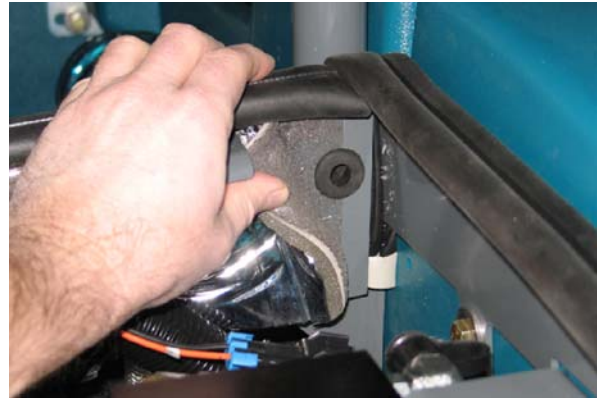
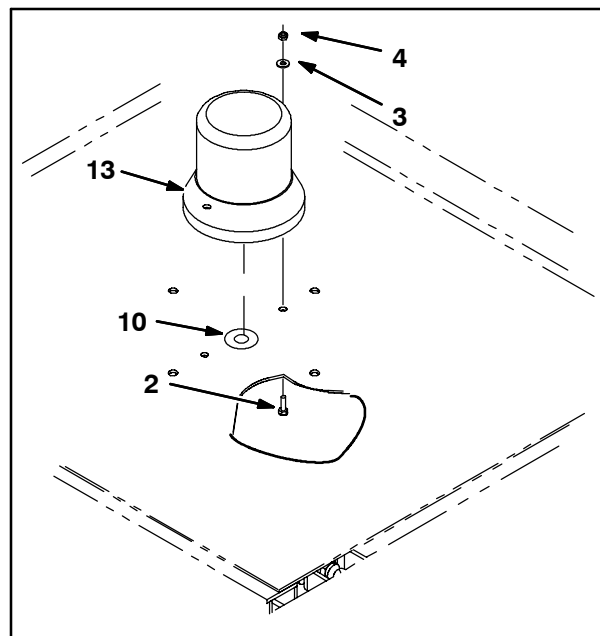

FIG. 3
FIG. 4
2. Insert a grommet (10) into the hole in the operator compartment panel and the hole on top the overhead guard. Refer to Fig. 3 and Fig. 4.
3. Route the wires from the strobe light (13) down through the grommet (10) installed in the overhead guard and use two hex screws (2), two flat washers (3), and two hex nuts (4) to install the light onto the overhead guard. Refer to Fig. 4.